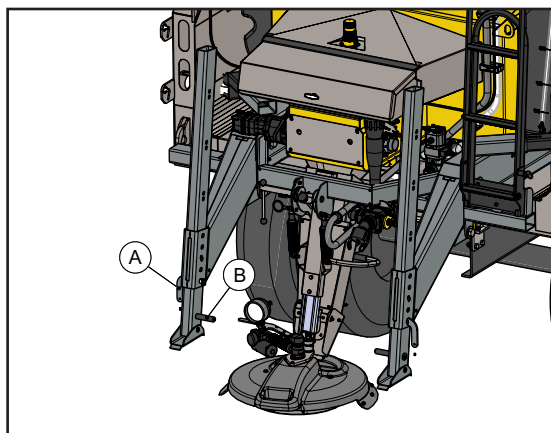

Figure 8 - Rear Leg detail
9. Figure 8 - Raise rear legs:
- a. Remove lock pin (A).
- b. Grip rear leg at handle (B).